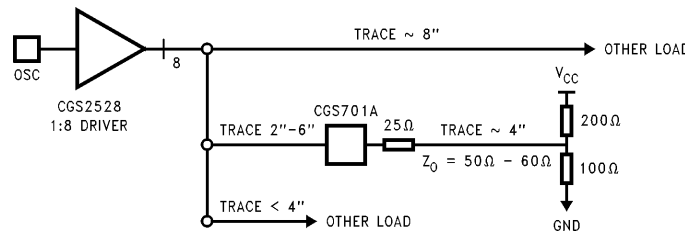

FIGURE 6. Trace Length and Loading
We will work through each of these steps using an actual clock distribution design example shown in *Figure 6*. It will be assumed that the final system timing requirements are known and the maximum allowable skew for error free operation is also known. It will also be assumed that the data is sampled on the rising edge of clock.
The layout of the board and the loading on the outputs are shown in *Figure 6*. The trace length from the 1 to 8 driver to the CGS701A reference input is between 2 to 6 inches. In this particular application, the trace length from the CGS701A outputs (8) to each one of the loads has been kept to approximately four inches. There could be applications where the trace lengths are not the same and this additional trace delay can be compensated for by either phase advancing the longer trace or retarding the shorter trace. Examples showing this and other configurations are shown in the results section of this application note.
The results from the phase optimization for the clock distribution design shown in *Figure 6*, using the delay network, is shown in this section. In addition, data is also shown here that can be used as a guideline by any system designer for any application using a PLL with an external feedback path. The phase optimization process is not complete until it is understood how various other parameters can affect the results. We have attempted to provide data that will show how some of the following variables: VCC, frequency, temperature and VREF edge-rate, different loads and load distances can affect the optimization process and phase delay.
- Load @ 4 inches from CGS701A output (see *Figure 6*)
Table II details the impact on phase delay by varying the input reference signal edge-rate, keeping its amplitude at 3V and feedback output rise time between 1.5 ns to 2.0 ns. Data is for 25°C, using the same loads as shown in *Figure 6*. With slower edge-rates the phase delay increases. In these examples, for an input reference with an edge rate of 2 ns a phase delay of 50 ps (zero delay) is realized. Conversely, for a 4 ns edge-rate the phase delay is considerable at 2.6 ns. If this were an actual edge-rate used in application then it would be possible to compensate for this phase delay using an RC network described earlier.
Load: 200Ω/100Ω, see Figure 6 V CC = 5V, Freq = 40 MHz, Temp = 25°C